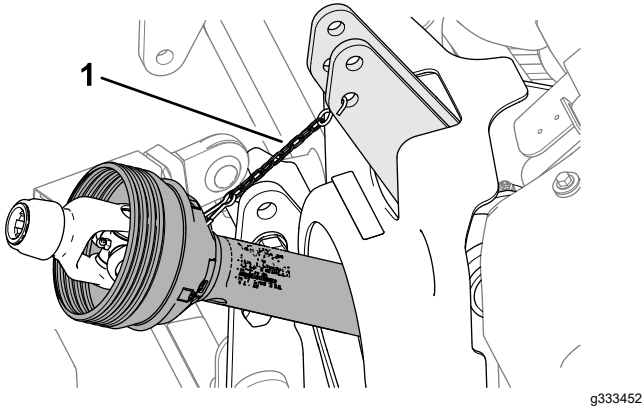

Figure 51
8. Use the safety shield chain to support the PTO driveshaft by assembling the chain between the PTO shield and the machine (Figure 51).